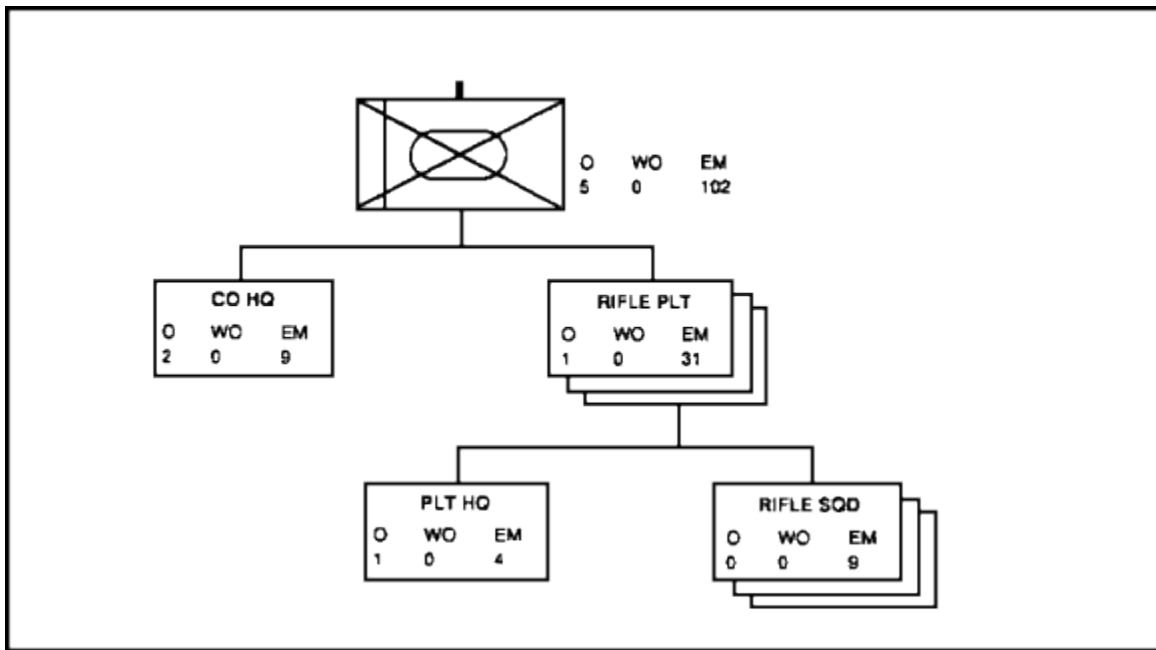

Figure 1-1. Mechanized infantry battalion (BFV) rifle company
- a. Task Organization. The company team is task-organized by the battalion task force commander for a specific operation or mission, based on his estimate of the situation. Habitually task organizing the same non-organic elements to a company team headquarters forms close relationships that are important to teamwork on the battlefield. This is especially important in the area of CSS and fire support coordination. Figure 1-1 shows the mechanized